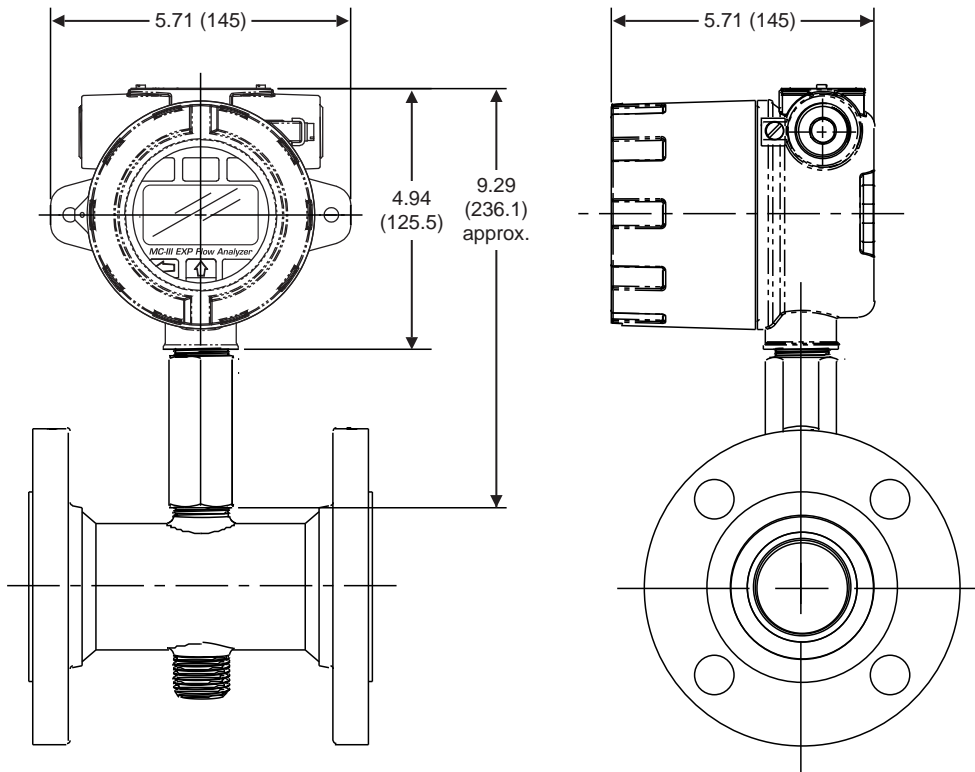

Figure 2.3—Direct mount to a Barton 7000 series flowmeter with 3/4-in. to 3/4-in. standoff tube (ATEX)
- Mount the device to a Barton 7000 Series turbine meter. A 3/4-in. to 3/4-in. stainless steel standoff tube is required (*Figure 2.3, page 16*). (The 3/4-in. to 1-in. reducer supplied with the Barton 7000 Series meter is not required when the standoff tube is used.)